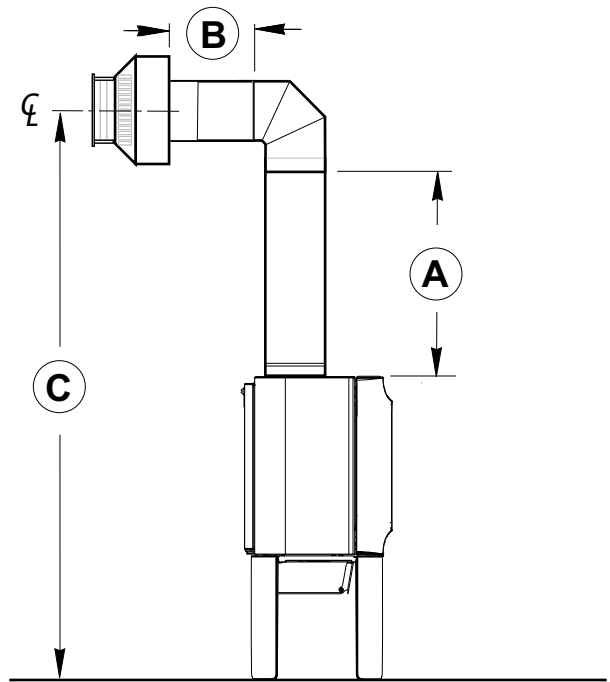

Figure 6.6. Minimum vent required for horizontal termination.
- Any horizontally terminated vent run must include a minimum vertical rise off the stove. See fig. 6.6.